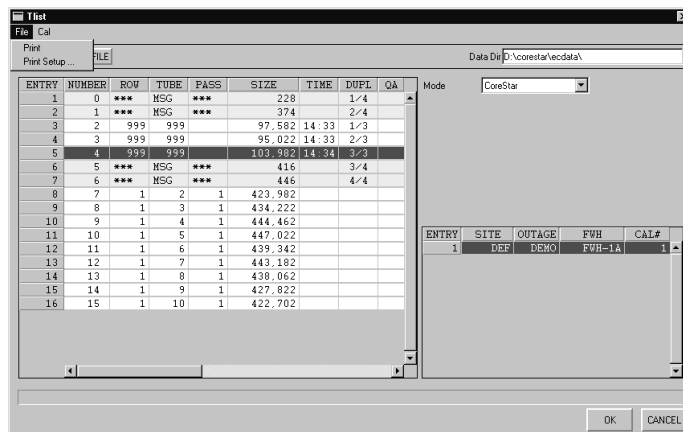

Figure 3-52. File Menu in TLIST Dialog
- ❑ **TLIST Menu Bar:** The **TLIST** dialog has two pull-down menus named **File** and **Cal**. The menus are shown in Figures 3-52 and 3-53.